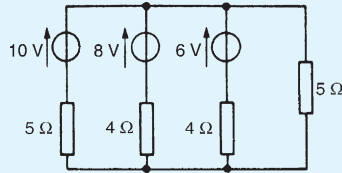

Figure 13.80
5. For the network shown in Fig. 13.80, convert each branch containing a voltage source to its Norton equivalent and hence determine the current flowing in the 5Ω resistance.